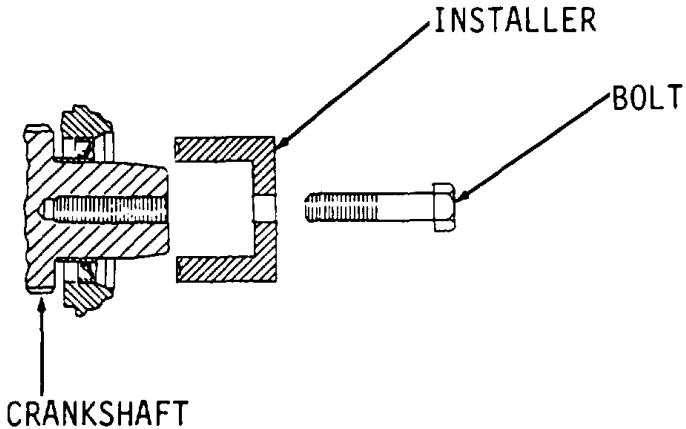

Figure 13-66.
- 18. Remove bolt and installer (Figure 13-66).